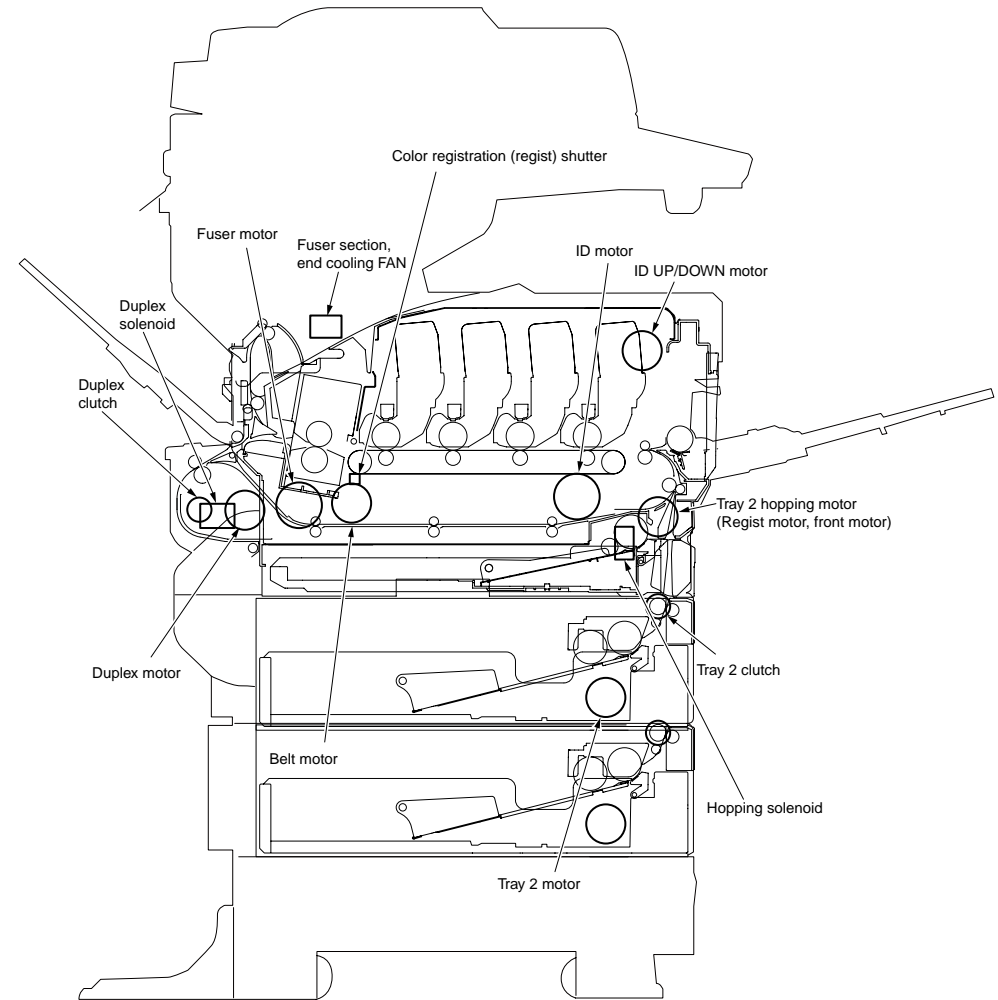

Fig. 5-2
3. When the (6) key is pressed, the test is started. The unit name starts blinking and the corresponding unit runs for 10 seconds. (Refer to Fig. 5-2.)